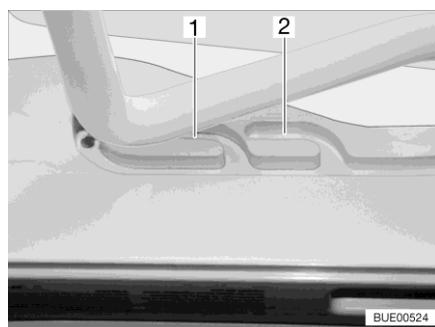
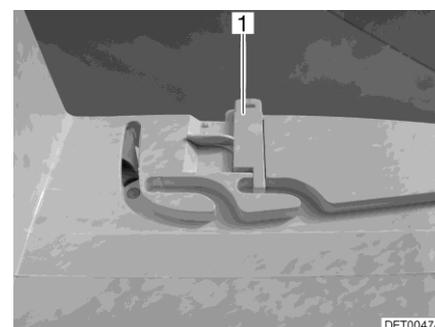

Fig. 88 Guide (ventilation position)
Fig. 89 Lock (ventilation position)
The Heki skylight can be put in two ventilation positions: Bad weather position (Fig. 88,1) and central position (Fig. 88,2). Depending on the model, the skylight can be locked in the central position with both left and right latches (Fig. 89,1) on the skylight frame.
- Push the bar slightly upwards and into the selected guide (Fig. 88,1 or 2) and lock if necessary.